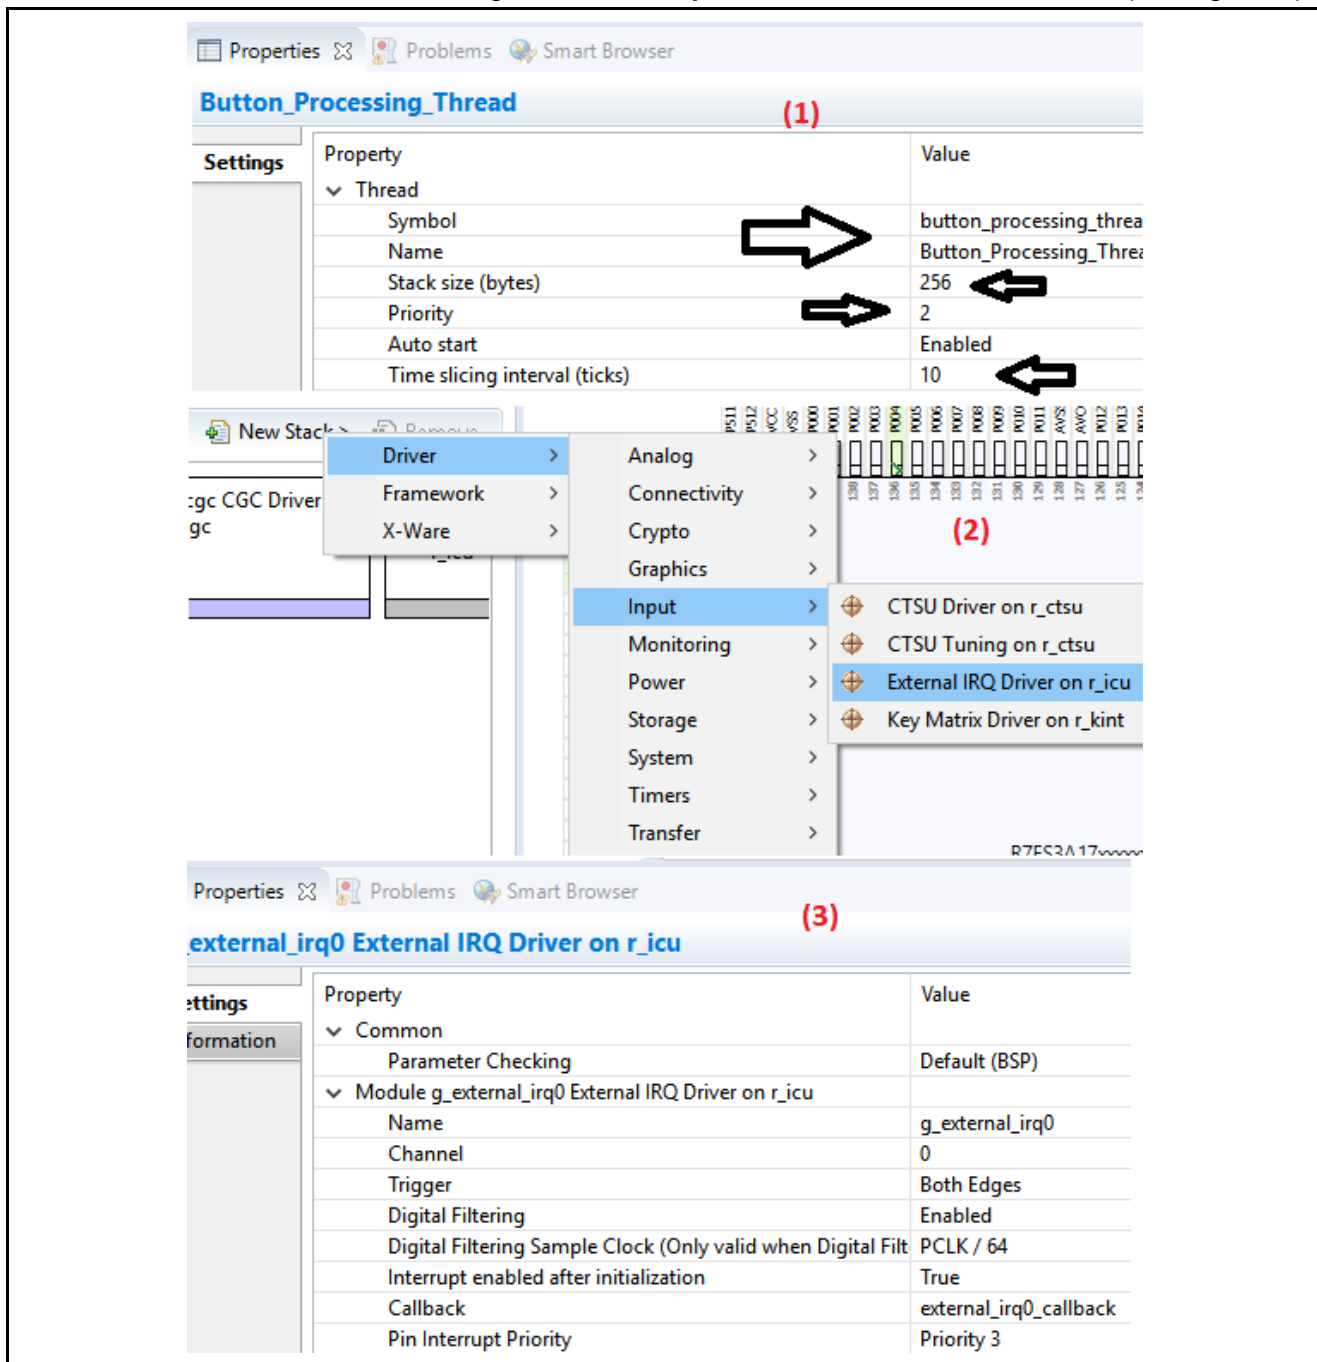

Figure 14. Adding IRQ Driver Module
2. In the **Property** of this new thread, update the **Symbol Name** to `button_processing_thread` (see Figure 14).
3. Include the **External IRQ Driver on r\_icu** module by clicking the **New Stack** button (+) sign in the **HAL/Common Stacks** window and go to **Driver > Input > External IRQ Driver on r\_icu** (see Figure 14).